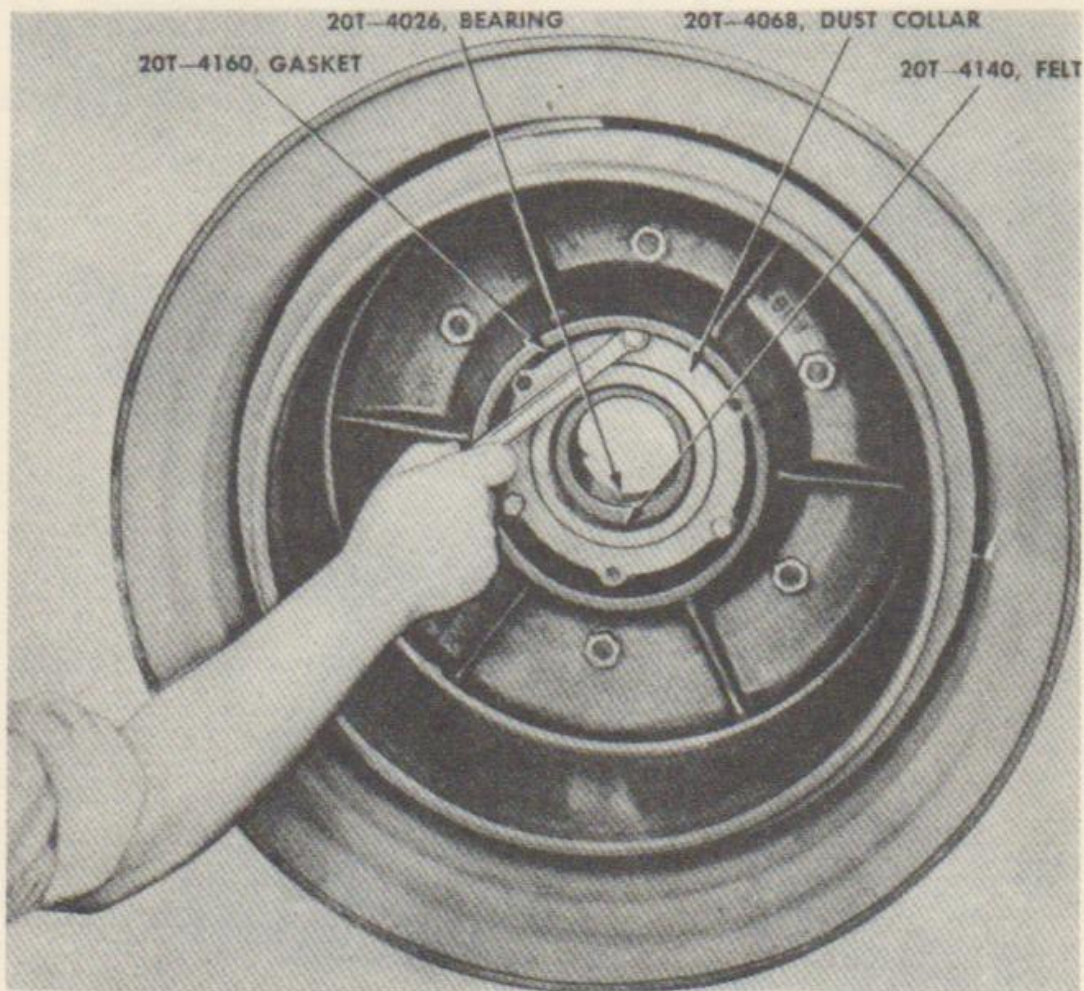

FIGURE 52. REMOVING DUST COLLAR
from hub cap, then remove hub cap and gasket. Remove cotter pin from axle nut, turning axle counterclockwise. Place a screwdriver under outer bearing and remove bearing. Pull wheel and tire assembly off axle using greased skid plate to facilitate its removal. If wheel will not slide off freely once outer bearing is removed, it is usually because brake shoes are dragging or groove is worn in drum. This drag can be removed by releasing the brake through a counterclockwise movement of the slack adjuster which is attached to camshaft. Remove the three cap screws and lock washers from dust collar, and pull inner bearing out of wheel (fig. 52).
c. Installation. Lubricate wheel bearings (para. 31 d. (1)). Place inner bearing in wheel. Place felt into dust collar. Place gasket in position on inner side of wheel. Install felt and dust collar over gasket using three cap screws and lock washers (figs. 52 and 59). Place greased plank or metal plate under axle spindle. Roll the wheel and tire assembly into greased skid. Aline end of axle spindle with inner bearing by raising or lowering the jack. Slide the assembly on to the spindle using care not to damage the spindle threads. Make